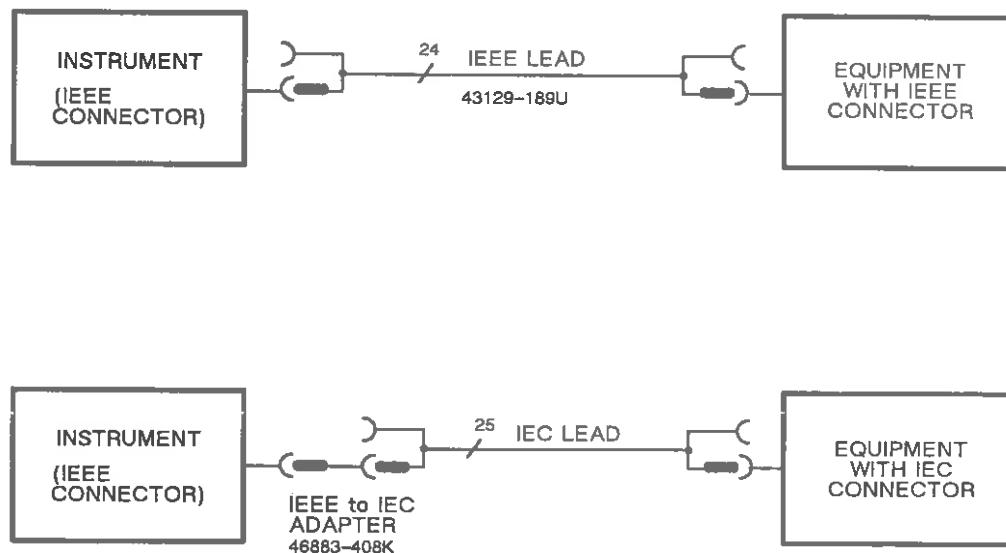

Fig. 2-2 GPIB interconnections
(1) The interface is ready for GPIB operation after setting the appropriate talker/listener address – see Chap. 3 : Second function 2.
(2) Connection to other equipment which has a 24-way bus connector to IEEE Standard 488 can be made with the GPIB lead assembly 43129-189U, available as an optional accessory. Where conformity with the radio frequency interference limits specified by VDE (Verband Deutscher Electrotechniker) is required, an alternative double screened GPIB lead assembly 46883-962H is available. An IEEE-to-IEC adapter 46883-408K is also available for interfacing with systems using a 25-way bus connector to IEC Recommendation 625 – see Fig. 2-2.